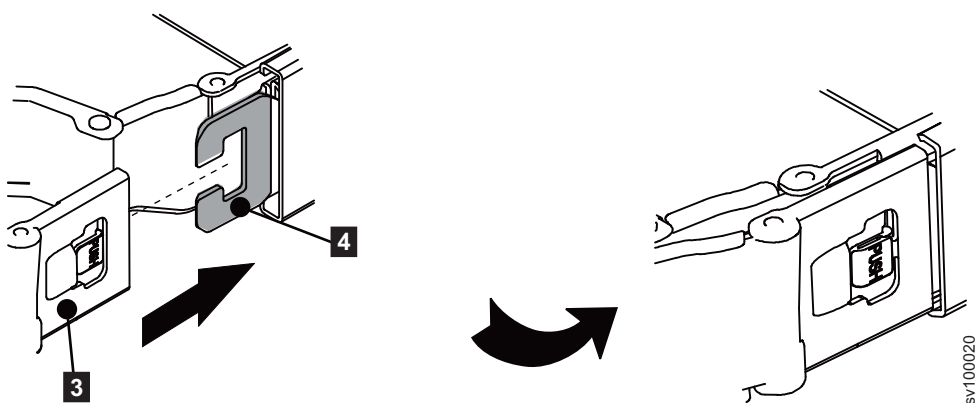

Figure 18. Install the outer member
3. Install the cable-management arm outer connector (3) onto the cable-management arm connector base on the outer member (4). Refer to Figure 18.